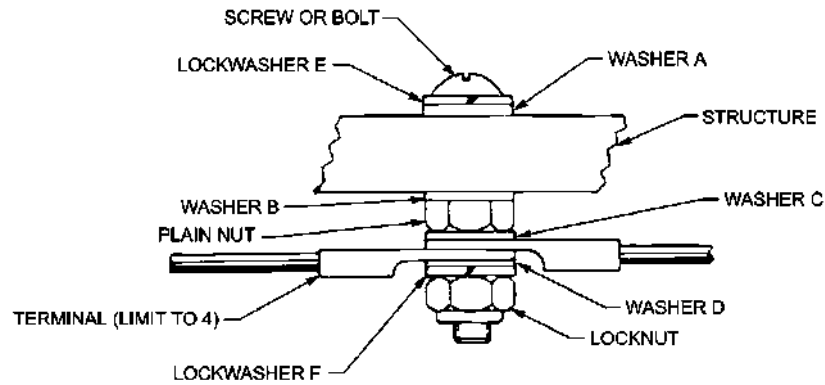
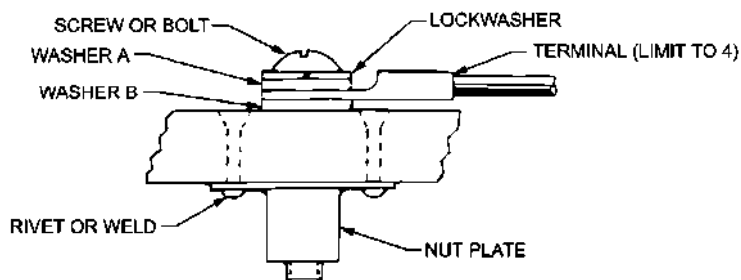
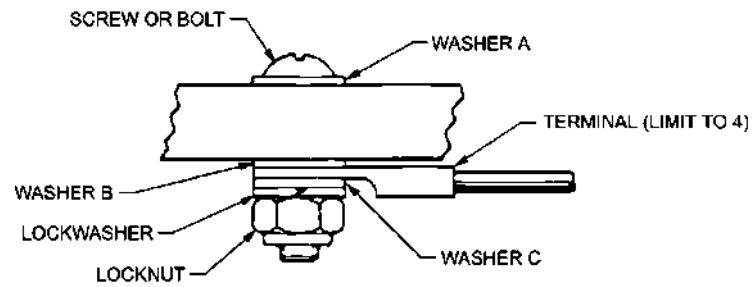

Figure 13-1 Stud Bonding or Grounding to Flat Surface
Figure 13-2 Plate Nut Bonding or Grounding to Flat Surface
Figure 13-3 Bolt and Nut Bonding or Grounding to Flat Surface
11. Use AN nuts, either plain or self-locking, where indicated in Figure 13-1 and Figure 13-3. Use an all-metal, self-locking nut if practicable. Always use an all-metal, self-locking nut where current will be present. Where installation conditions require, use an AN nut-plate, riveted to structure.
12. Use AN plain washers and split lock washers as indicated in Figure 13-1, Figure 13-2 and Figure 13-3. Unless otherwise directed by applicable equipment technical order, use split lock washers with nuts, either plain or self-locking. With aluminium terminals, use a plain washer of at least the diameter of the terminal tongue, next to the aluminium terminal. If an AN washer does not meet this requirement, use a washer of the SAE heavy series, or a special washer made for this application.
(Refer to Figure 13-1)
(Refer to Figure 13-2)
(Refer to Figure 13-3)
- a. **Stud Connection.** In this type of connection, a bolt or screw is locked securely to structure, thus becoming, in effect, a stud. (See Figure 13-1 and Table 13-1.) Grounding or bonding jumpers can be removed or added to the shank of stud without removing stud from structure. Not more than four lugs should be connected to any one stud.
- b. **Nut Plate and Bolt Connection.** Nut plates are used where access to the nut for repairs may be difficult. Nut plates are riveted or welded to a clean area of the structure. (See Figure 13-2 and Table 13-2.) Cleaning of structure is done in accordance with paragraphs 15 through 17 as applicable.
- c. **Nut and Bolt Connection.** In this connection the bolt or screw is not attached permanently to structure. (See Figure 13-3 and Table 13-3.) When jumpers are to be added or removed, the entire connection is remade. The table lists materials and platings that are compatible with the structure to which they are mounted. These materials are selected so that corrosion, if it occurs, will occur in the washers, which are expendable, rather than in the structure.
When terminal is under head of screw or bolt (as shown in Figure 13-2), it is preferable not to install more than one terminal. Otherwise, the screw may loosen and cause improper operation of equipment.